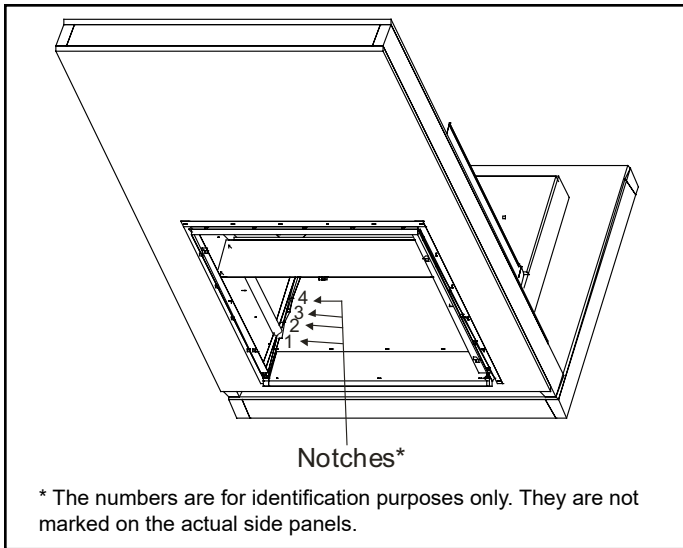

Figure 12. Identifying Side Panel Notches
- Three base pad gaskets are supplied with this kit. Where the gaskets are placed depends on which wall sleeve is used (Table 2). Notches in the bottom flange of each side panel indicate where the leading edge of the first gasket should be placed (Figure 12). The leading edge of the gasket is the edge closest to the opening in the wall.